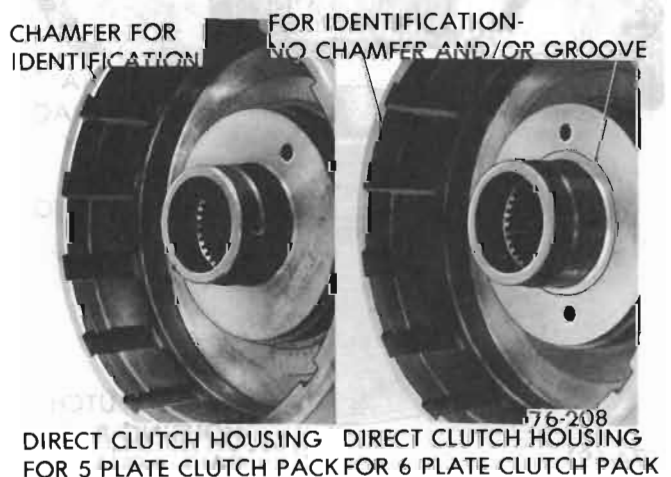

Figure 76-208 Direct Clutch Housing Identification
**CAUTION:** The direct clutch housing for the "BS", "BB", and "OW" models use the six (6) plate direct clutch assembly. This housing can be identified by the elimination of the I.D. chamfer on the clutch plate end of the housing and/or a groove in the face at the base of the tower. See Figure 76-208. Should replacement of the direct clutch housing become necessary, extreme care must be taken in obtaining the correct part for the model involved.